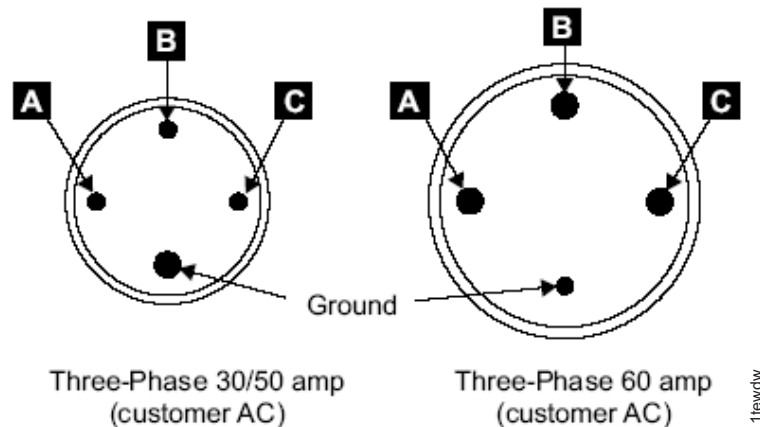

Figure 35. Measuring voltage between each pair of pins
3. Measure the voltage between the ground pin and each voltage pin (A, B, and C) on the customer outlet. Refer to Figure 35 on page 39 for the location of the voltage pins.
Refer to Figure 35 for the location of the voltage pins. Verify that the customer AC input voltage that you just measured matches the machine input voltage information on the label.